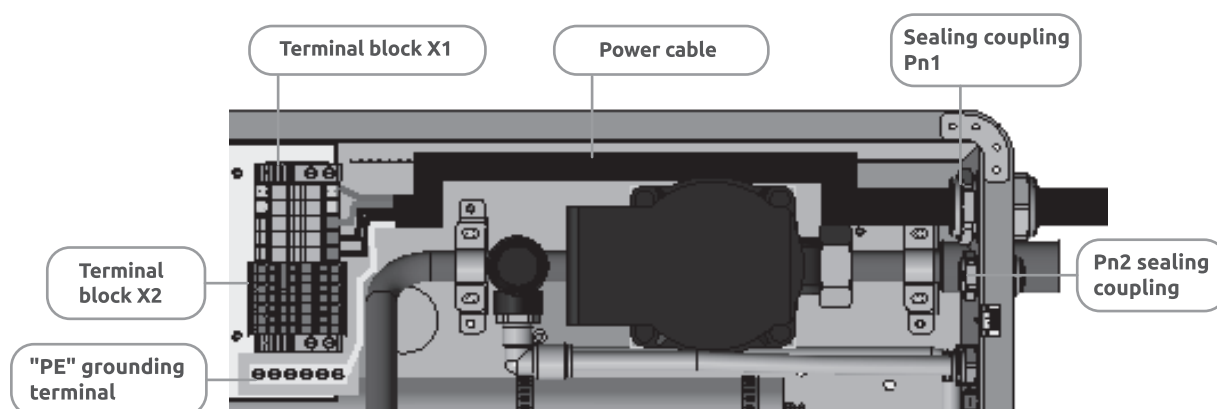

Figure 10 – Laying the power supply cable inside the boiler
5.3.4 Insertion of cables into the electric boiler is carried out in the places of installation of sealing couplings in the lower part of the boiler body (see Figures 2, 10), the power cable must be passed through the sealing coupling Pn1, and other wires Pn2. Laying the power supply cable inside the boiler must comply with Figure 10.